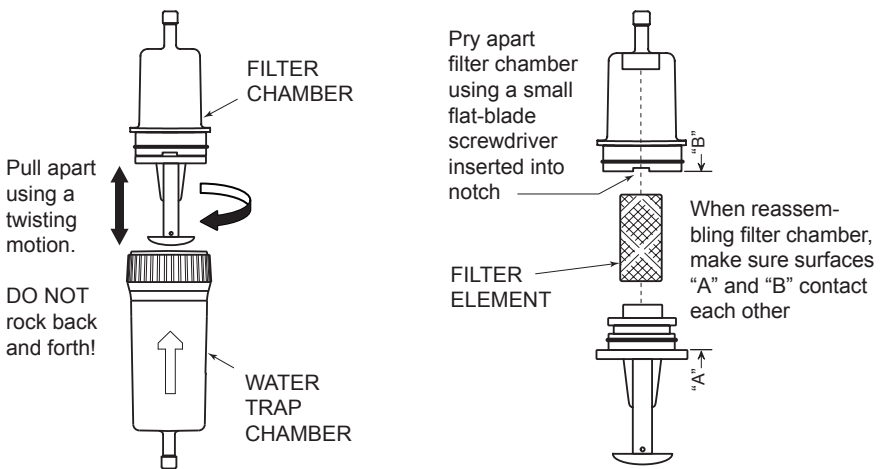

Figure 6-5. Disassembling the Water Trap / Filter Assembly
1. Remove water trap chamber per Figure 6-5.